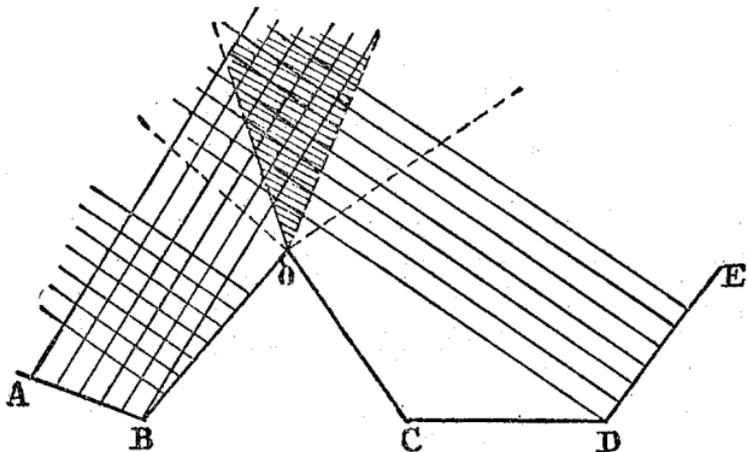
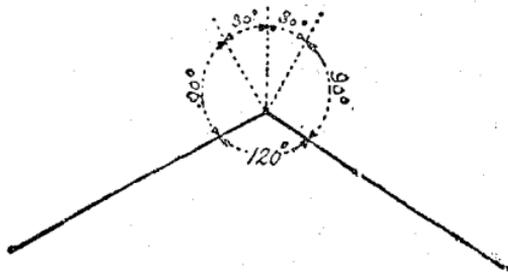
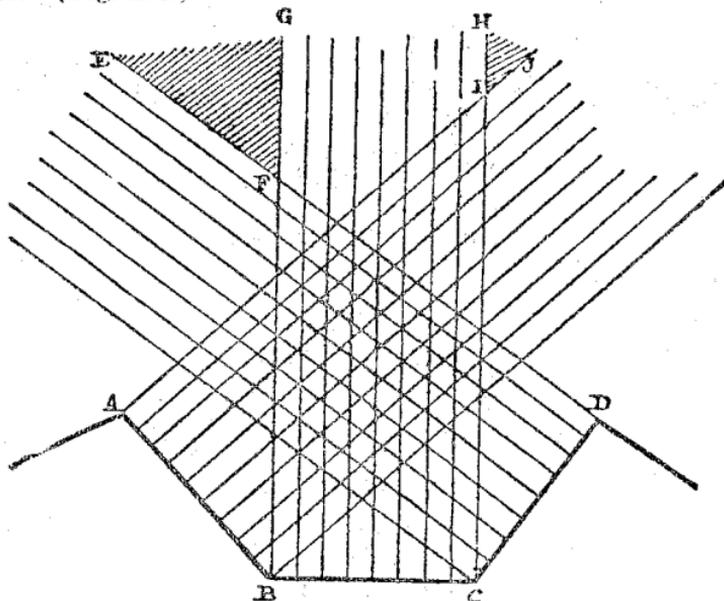

FIG. 171.—Flanking fire.
FIG. 172.—No dead space with salient of  $120^\circ$ .
FIG. 173.—Advantages and disadvantages of the broken-line trace.
*Dead spaces.*—If the salient of an angle O (figs. 169 and 170) is less than  $120^\circ$  the trench T can fire as far as the line OA, and the trench T, as far as the line OC, leaving the angle AOC in which *direct* fire can not be delivered. Such angles are called *sectors deprived of fire* and constitute what are known as a *dead space*. Figure 171 (flanking arrangements) shows how to remedy this grave defect by *arranging a flanking fire*. AB and DE flank the salient O. Figure 172 shows that there is no dead space when the salient is  $120^\circ$  or over. Figure 173 shows that, although the trace in a broken line admits of covering better the immediate foreground, still this arrangement results in dead spaces, or at least in ground not thoroughly swept farther to
2. *Tenaille trace*.—The line of fire is broken in such a manner that the two contiguous parts BC and CD, mutually flank each other. (Fig. 173.)